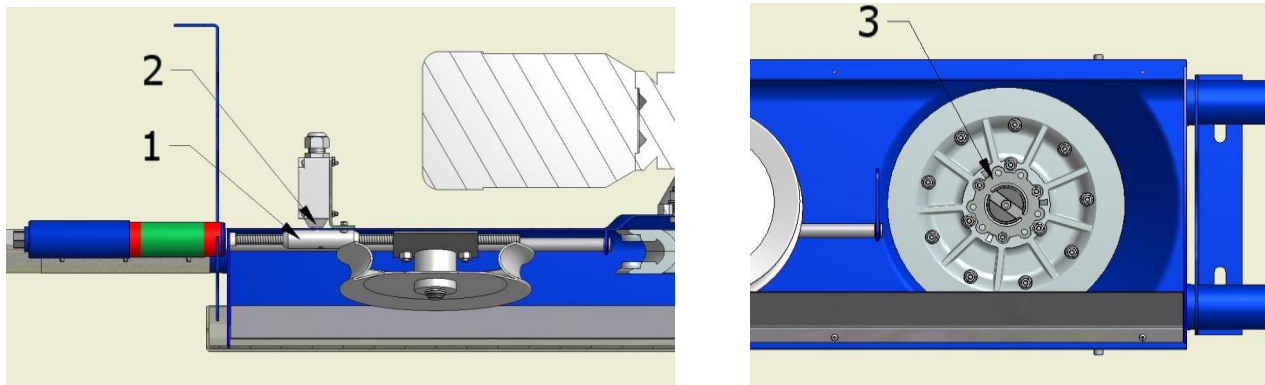

Fig. 53a: MiniPork safety system
The drive unit is always equipped with two safety systems. A breaking part is mounted between the disc arm of the gear shaft and the nave of the wheel (pos. 3, fig. 53A). The breaking part is dimensioned in such a way that the system is not damaged if e.g. a foreign body is getting into the system. The breaking part also protects the system if the system is otherwise overloaded - e.g. at too much filling.
The other safety system of the drive unit is placed on the threaded rod. A sleeve (pos.1, fig 53A) is screwed onto the threaded rod, and this sleeve must always be positioned opposite to the micro switch (pos. 2, fig. 53A). If the spring tension is too low or indeed too high, the sleeve will move away from the switch, and cause the system to stop.